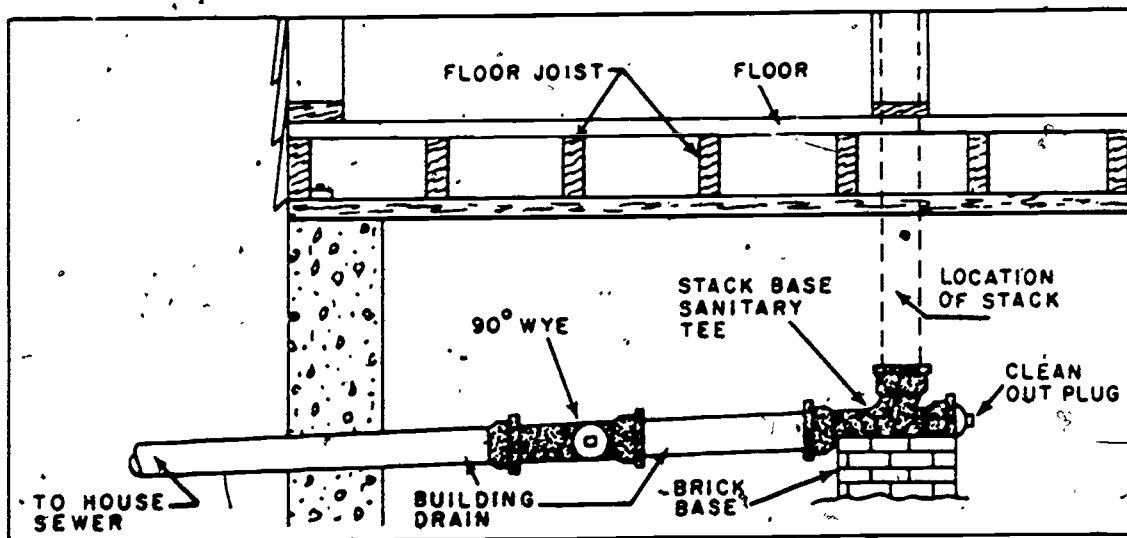

Figure 2-10. Building drain and stacks.
the system under the building, shown in figure 2-10, which receives the discharge from the soil and waste stacks and carries it to the building sewer. You must plan carefully when laying out the building drain and locating the fittings for the soil and waste pipes, which are made of cast iron, copper, or plastic.
The building drain usually begins at a point of connection with a soil or waste stack and continues to a point at least 3 feet outside the building foundation for tie-in to the house sewer, as illustrated in figure 2-10. The drain is located below the floor and may be partially underground or suspended from the basement ceiling. The upper end of the drain is usually attached to a combination wye and 1/8 bend which rests on a brick or concrete base in constructions without basements. In constructions with basements, the combination wye and 1/8 bend and building drain are anchored rigidly to the floor joists. The combination wye and 1/8 bend is usually equipped with a cleanout plug and acts as a base for the stack. The stack is the vertical pipe which directs the sewage flow from above to the drain. The number of stacks required and their exact locations are determined by the location of the fixtures.
**Exercises (217):**
**Installation of the Building Drain.** After you have determined the location of the building drain and the stack, you are ready to make the installation. The fitting, which serves as a stack base on which the stack is constructed, must be positioned and installed when the building drain is fabricated. Figure 2-10 illustrated how a sanitary tee is used as a stack base. Notice the cleanout plug, which is installed in the tee for future maintenance of the system. The 90° wye in the building drain was installed, in this case, to connect a 4-inch waste pipe to serve the kitchen area of the building. The blocking under the stack base is necessary to position the fitting under the floor opening for the stack and to prevent the stack base from settling when the weight of the stack is added. The building drain is positioned to grade, and the fall should not exceed 1/4 inch per foot of run. After the location of the fittings in the drain is determined, the measurement for the pipe run between the fittings can be determined. The measurements between the fittings must be made between the center of the fittings.